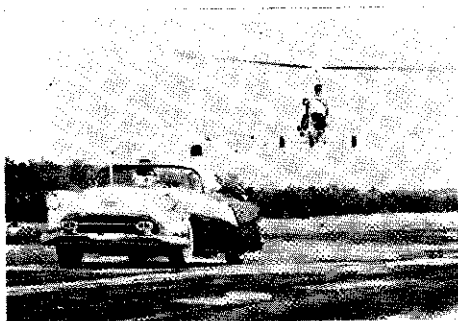

Fig. 18—A 16 year old high school boy and his chums built this Gyro and soloed after 4 hours of practice.
Use a short length of rope at first, no longer than 30 feet, so you can shout and be heard by the driver (see Fig. 18). Position yourself downwind from the car and pull back hard on the line to test its strength. Have at least one man in the car face back at all times to watch your signals: (1) "Thumb up", meaning "go ahead" or "go faster", (2) "Thumb down" meaning "slow down", and (3) "Cut" motioning across your throat, meaning "stop quickly". If only two men go out, you must have a wide-angle rear view mirror and a radio intercom installed, so the driver can always see and hear the pilot. A wind meter should be installed on the car, which the driver must learn to watch instead of the speedometer, (see Fig. 16). There should be no one sitting next to the driver, to avoid his being distracted by conversation.